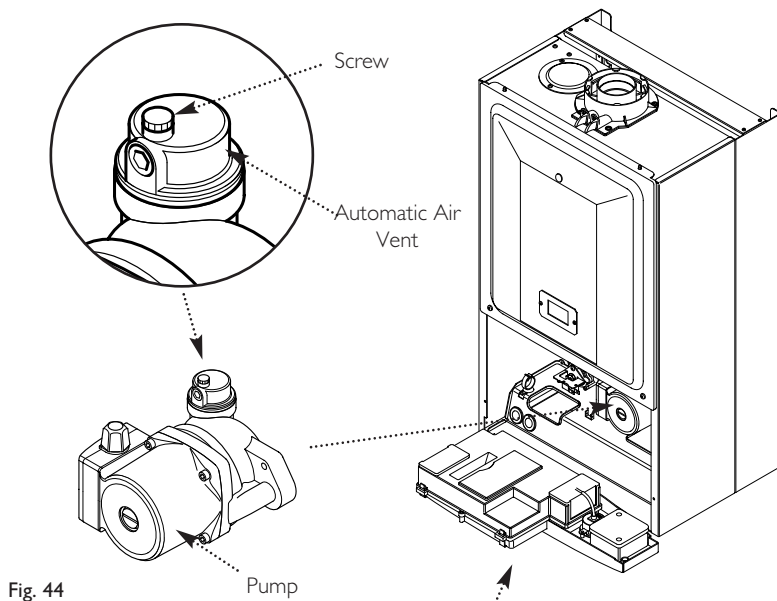

Fig. 44
3. Open the screw on the automatic air vent (Fig. 44).